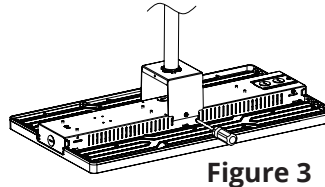

Figure 3
- Step2.** Lock fixture on the bracket; **(Figure 3)**